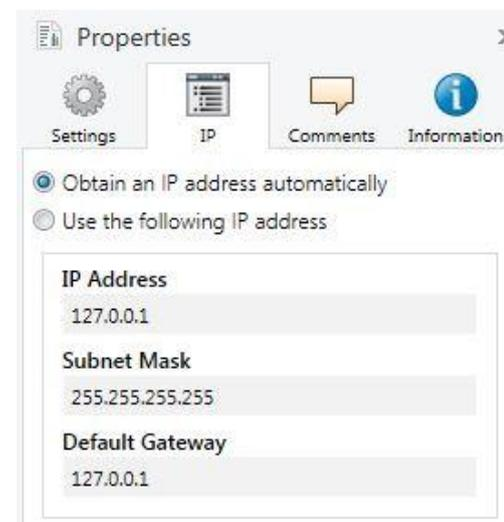

Figure 32 Setting of the IP address data of the device on the "IP" tab in the sidebar of the ETS
3. Select the "IP" tab as per Figure 32. Then select either